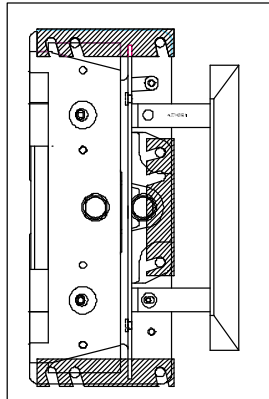
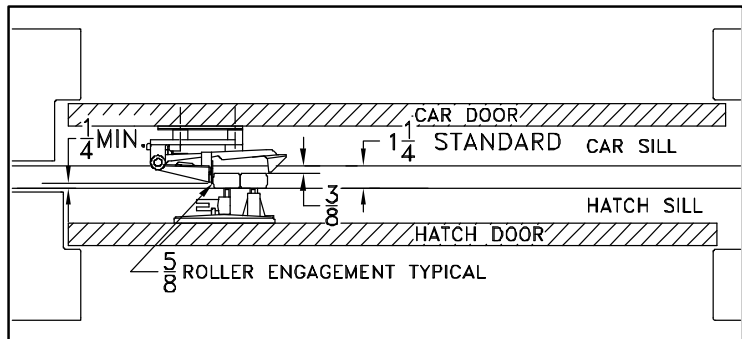

Figure 3: Arrangement of Clutch Spacers
Figure 4: Locating the clutch and release rollers
templates provide the appropriate locations and drillings to mount the new LWZ-2 clutch. (Note: The LWZ-2 uses the same mounting drillings as older designs). Mount the LWZ-2 clutch to the car door using either six (6) 5/16-18 bolts or carriage bolts. The clutch must be spaced (shown in Fig.3) out from the car door face so that there is a minimum of 1/4" between the hatch sill and the front tip of the clutch open vane throughout the shaft; in other words at the tightest landing. (**NOTE** For **LRC models**, adjust the 1/4" hatch sill measurement with the clutch in the retracted position) Adjust the interlock release roller assemblies on all landings so that there is 3/8" from the roller face to the edge of the car sill (shown in Fig. 4). For a typical 1-1/4" running clearance, this will provide for an interaction of 5/8" between the rollers and the clutch. After mounting and locating the clutch attach the operator drive arm (see operator setup instructions for drive arm setup).